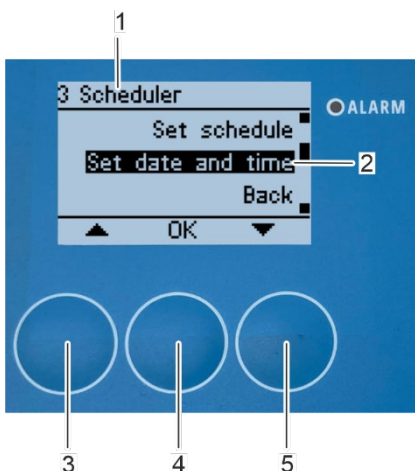

Fig. 157: Open "Set date and time" submenu
- Select the "Set date and time" submenu (Fig. 157/2) in "3 Scheduler" submenu (Fig. 157/1) with the arrow keys *[up]* (Fig. 157/3) and *[down]* (Fig. 157/5).
- Confirm the selection with *[OK]* (Fig. 157/4).